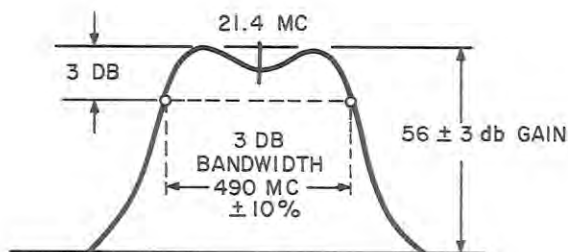

Figure 5-14. IF Amplifier, IF-212-500 AM Response Waveform.
- e. Adjust L1, L2, L3, and L4 for optimum symmetrical response centered around the 21.4 mc marker, Figure 5-14.